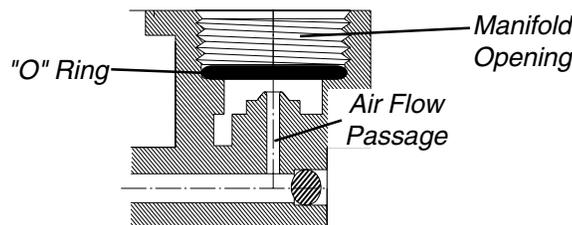

FIGURE 3 - REMOVING/INSTALLING "O" RINGS
Replacing Pilot Valve Poppets and "O" Rings (FIGURES 3 & 4).
DO NOT use sharp tools to remove "O" ring from plastic manifold opening. Damage to the plastic manifold and/or plastic manifold airflow passage could occur (FIGURE 3).
8. Install NEW slotted poppet into the bottom of the pilot valve stem with tapered end facing to the bottom (FIGURE 3).